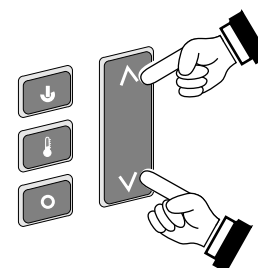

Figure 9
- **STANDARD THERMOSTAT** - While in standard thermostat setting, the transmitter will turn the burner on and off to achieve the target temperature (see Figure 9 below). To adjust the target temperature, press the up and down buttons until a suitable temperature is achieved.